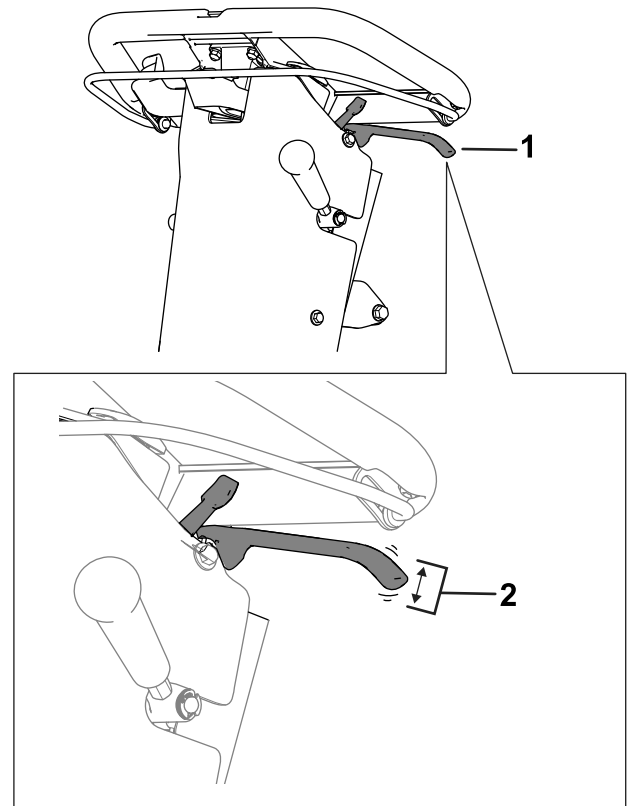

Figure 38
2. Measure the free play at the end of the parking-brake handle (Figure 38).